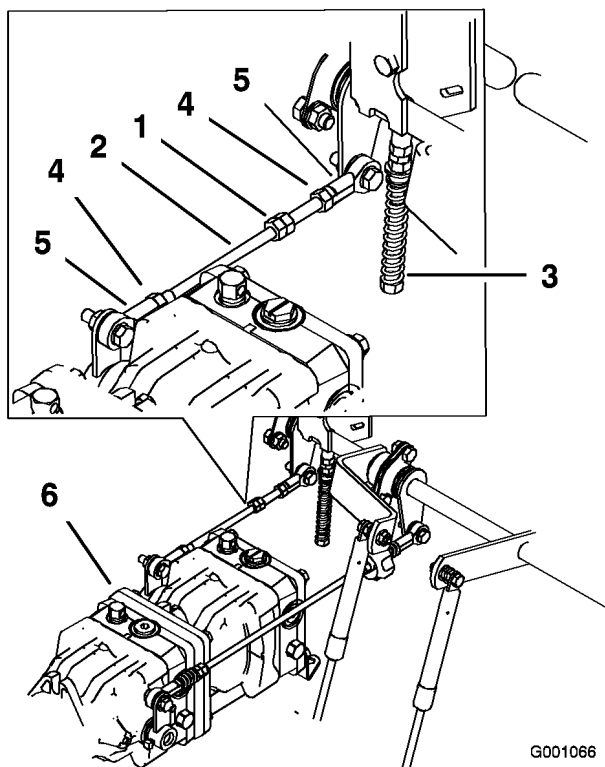

Figure 70
1. Loosen the locknuts at the ball joints on the pump control rod (Figure 70).
3. Adjust the pump rod length by rotating double nuts on rod, in the appropriate direction, until wheel is still or slightly creeps in reverse (Figure 70).
6. Tighten the locknuts at the ball joints (Figure 70).